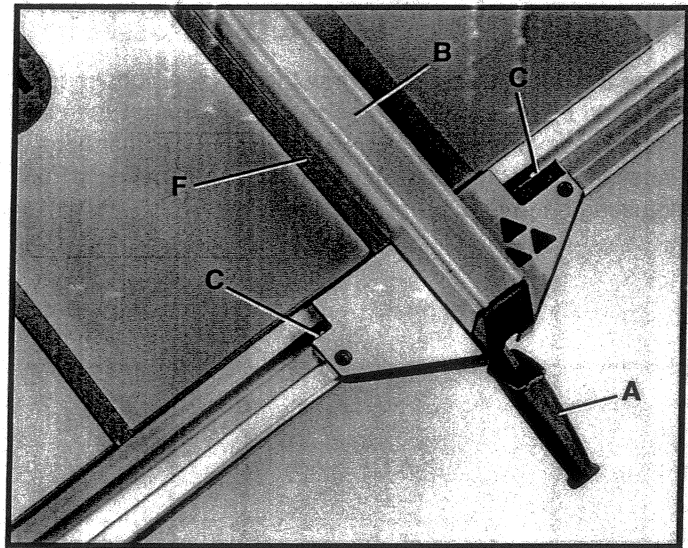
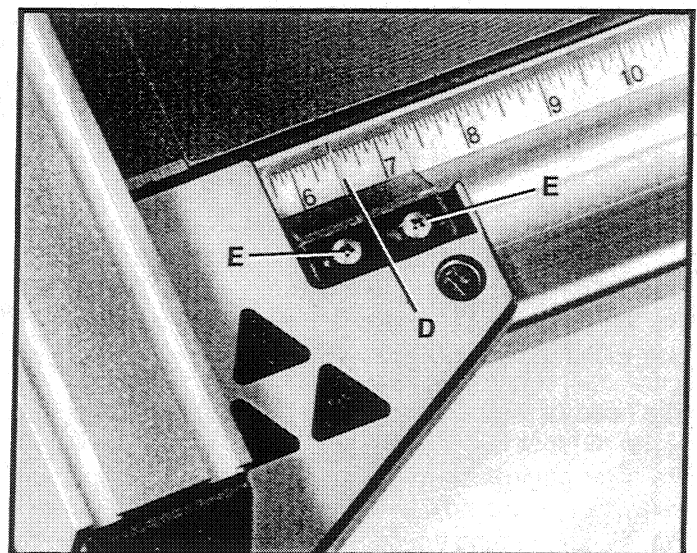

Fig. 69
Fig. 71
1. To move the rip fence, raise the lock handle (A) Fig. 69, as far as it will go and move the fence to the desired position on the table. When the lock handle (A) Fig. 69, is pushed down, clamping action on the rip fence (B) should be adequate. However, if the clamping action is too loose or too tight, an adjustment can be made by equally tightening or loosening two screws (C) as necessary. **NOTE:** It will be necessary to remove the cursor (D) Fig. 71, to make this adjustment.
2. Position the fence (B) Fig. 69, along one edge of the miter gage slot (F) as shown and lock the fence in that position. The edge of the fence (B) Fig. 69, should line up parallel to the miter gage slot (F). If an adjustment is necessary, proceed as follows:
3. Tighten or loosen either of two screws (C) Fig. 69, as necessary, until the fence (B) is parallel to the miter gage slot. **NOTE:** It will be necessary to remove the cursor (D) Fig. 71, to make this adjustment. Readjust the clamping action on the fence; if necessary, refer to **STEP 1**. Reassemble the cursor.
5. Depending on the type of saw blade being used, the cursor (D) Fig. 71, may need adjustment to compensate for the blade thickness. To adjust the cursor, make a test cut on a piece of lumber and measure the finished cut, or you can place the rip fence against the blade as shown earlier in the manual. If a minor adjustment is necessary, loosen two screws (E) Fig. 71, and move the cursor (D) as necessary.